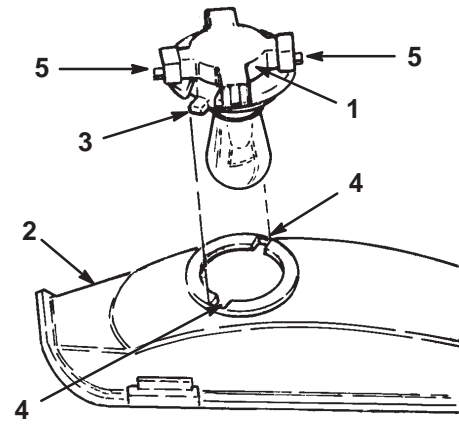

Figure 25
7. Rotate the bulb holder 1/4 turn counterclockwise and remove it from the reflector (Fig. 25).
3. Align the tabs on the bulb holder (Fig. 25) with the slots in the reflector.